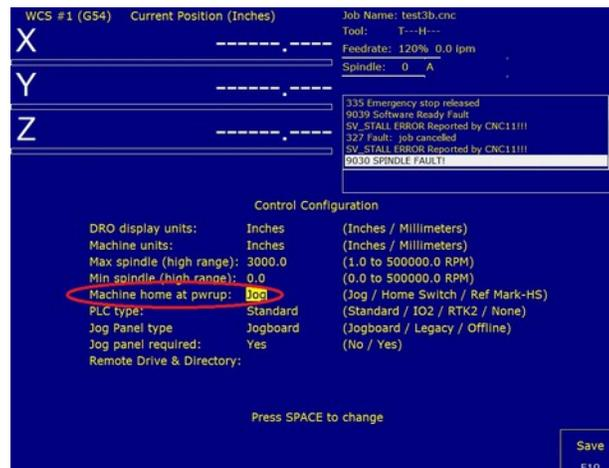

Figure 6.5.1
8. **Check home configuration** During the board level test in Section 4.2 we changed the machine home at power up to jog. Double check to make sure it is still set to jog as demonstrated in figure 6.5.1.